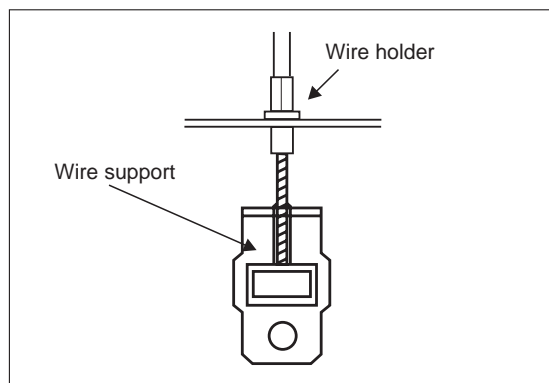

Fig. 4-50: Mounting the door lock unit
- ⑤ Tighten the wire holder (tightening torque: 24 – 31 kg/cm). Connect the 2 wires to each other (refer to fig. 4-50).